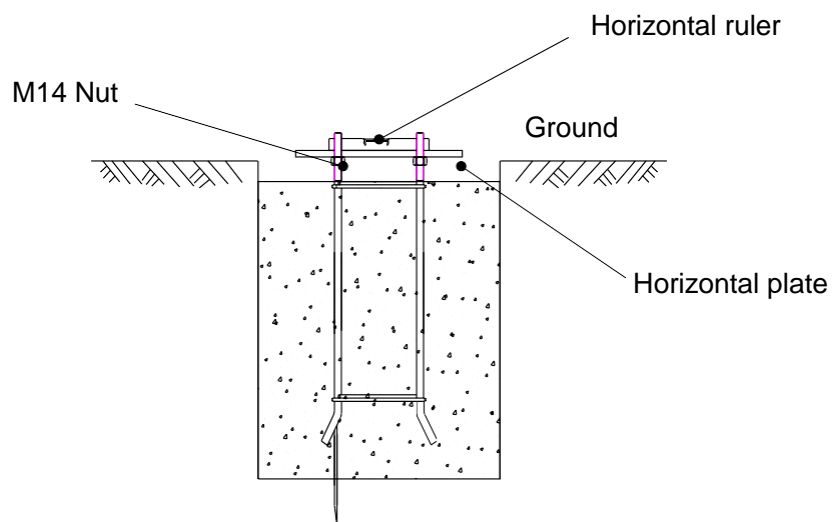

Figure 18
- ① Use knife to remove the tape on the cage.
- ② In the foundation's four screws, put horizontal plate so each screw can have a locking nut.
- ③ Use a Horizontal ruler to measure the level of degree, by adjusting the nut height, ensure that the lower surface of the horizontal plate is parallel to floor surface as shown in Figure 18.
- ④ After adjustment remove the horizontal plate, horizontal ruler and other tools.